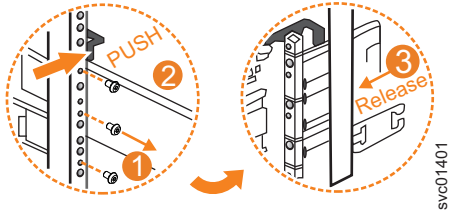

Figure 50. Remove the rail assembly from the rear frame bracket
3. Remove the two screws that attach the inner rail section to the rear bracket, as shown in Figure 50 on page 192.
4. Pull the rail forward, away from the rear bracket, as shown in Figure 50.